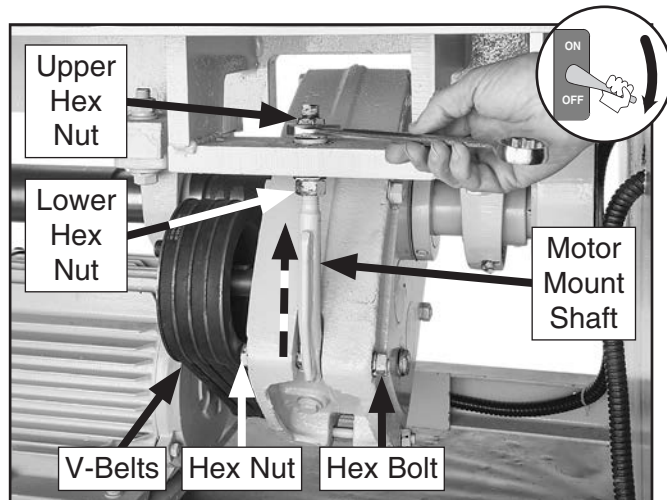

Figure 70. Adjusting motor mount shaft upward to tighten V-belt tension.
2. Loosen hex bolt and hex nut that pass through bottom of motor mount shaft, then loosen lower hex nut and tighten upper hex nut in equal amounts to tighten belts until deflection equals $\frac{1}{4}$ " (see **Figure 70**).